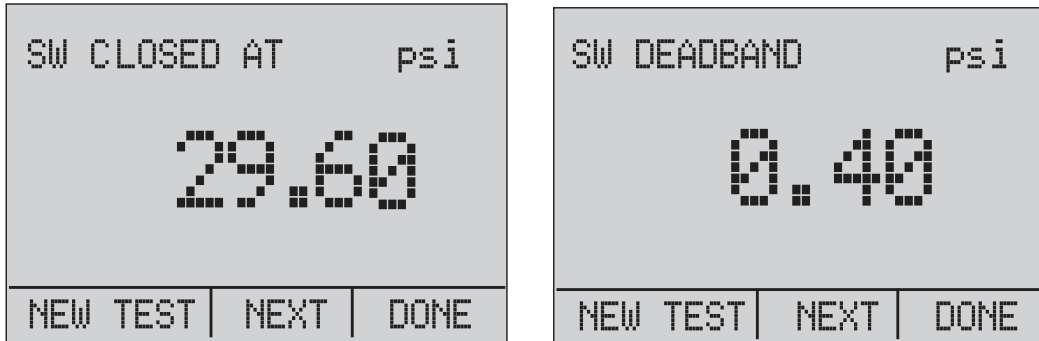

Figure 24. Switch Test and Deadband Results
9. Select the "NEXT" option to show the pressure at which the switch closed and the deadband. See Figure 24.